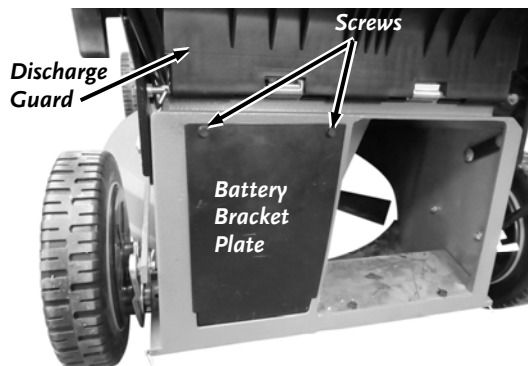

Figure 46
7. Position the Battery Bracket Plate and secure with two Screws using a 8mm Wrench (**Figure 46**).